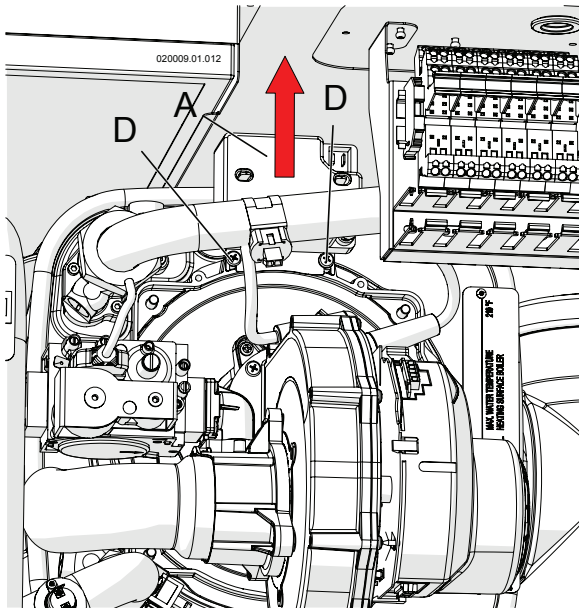

Figure 18-2 - Dismantling sparks generator
- 3.- dismantle the sparks generator "A" in Figure 18-2 by undoing screws "D" in Figure 18-2 and disconnecting it from the ignition spark plugs.